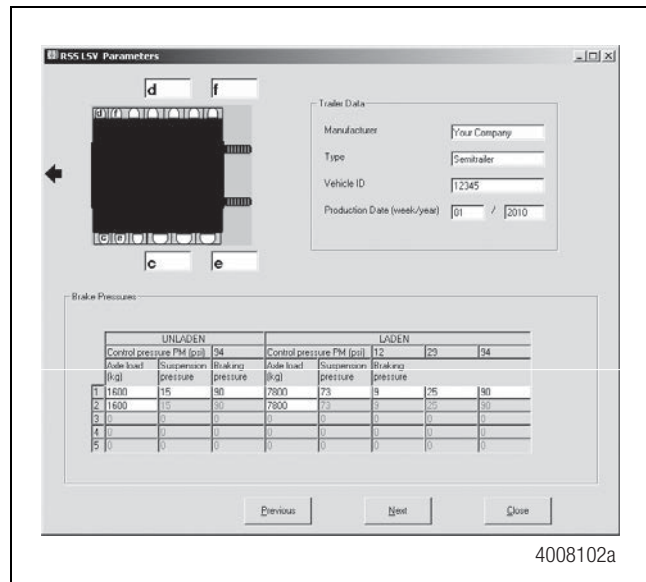

Figure 49
**Special GIO Functions** — Customized functions specific to the trailer. Click in the appropriate check box to select the function that has been installed on the trailer. Press **NEXT** to advance to the next parameter screen. Figure 49.